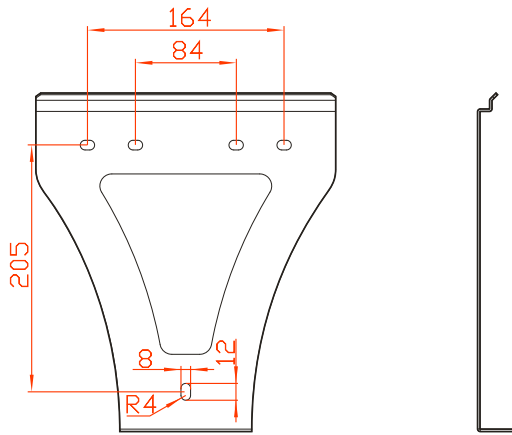
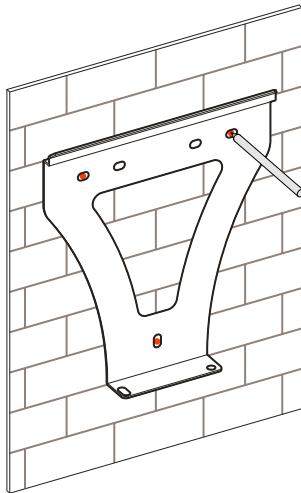

Figure3-7 Installation size (unit: mm)
Figure3-8 Mark the drilling position
- Step 2 Mark the position of installation holes on the wall according to the dimensions of the fixing holes of the installation holder (as shown in Figure3-7), and drill 3 holes of  $\Phi 10.5\text{mm}$  on the wall according to marked position, as shown in Figure3-8.